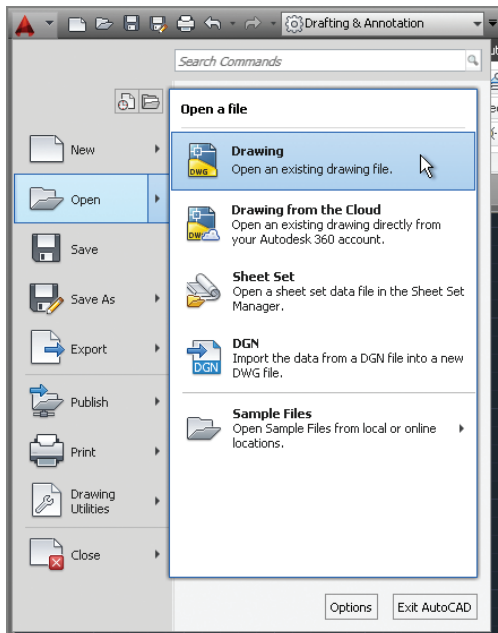

FIGURE 1.3 Opening a drawing from the Application menu
2. Click the red X at the extreme right edge of the search box to make the initial Application menu interface reappear. Here you can create new or open existing drawings, export or print drawings, and more. Hover the cursor over Open, and then click Drawing (Figure 1.3).